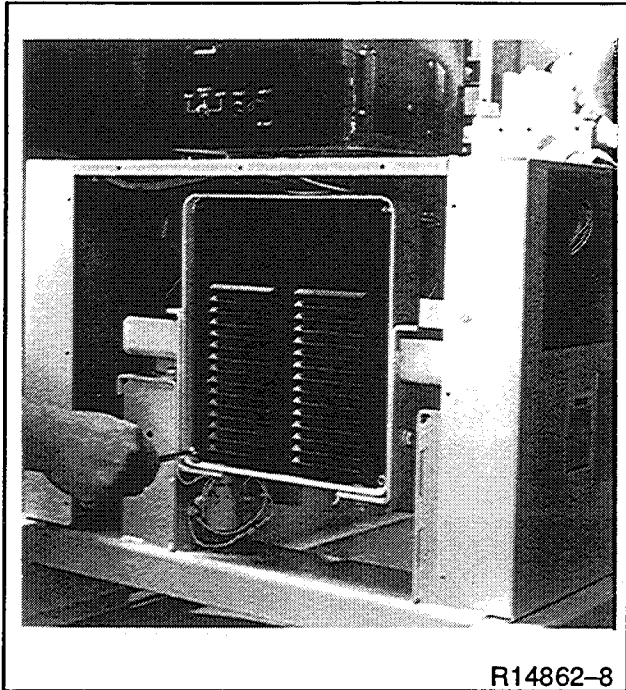

Figure 9-5. End Bracket Panel
5. Remove four screws attaching end bracket panel and remove panel. See Figure 9-5.